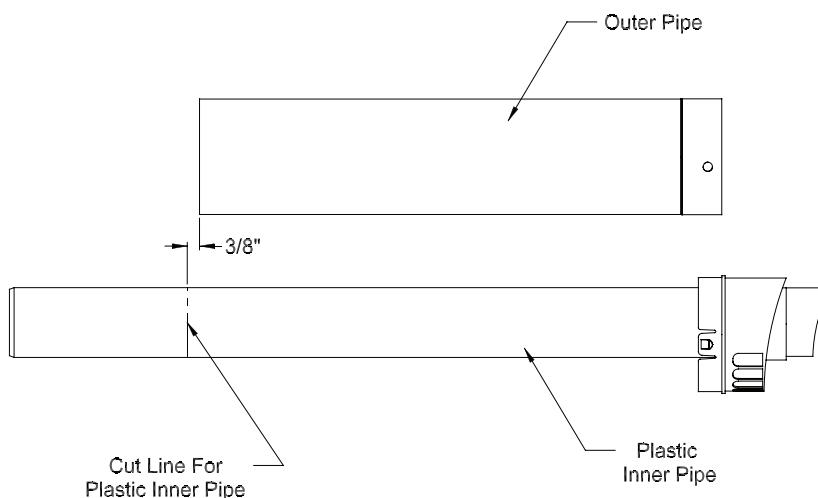

FIGURE 7.23: CUTTING INNER PIPE
- e) Cut the plastic inner pipe so that it will protrude 3/8" beyond the outer pipe when reinstalled in the terminal section (Figure 7.23). Use a fine tooth hacksaw or a PVC saw to cut the plastic pipe and be careful to cut the pipe square. De burr the cut edge of the plastic pipe with a file, razor blade, or fine sandpaper.